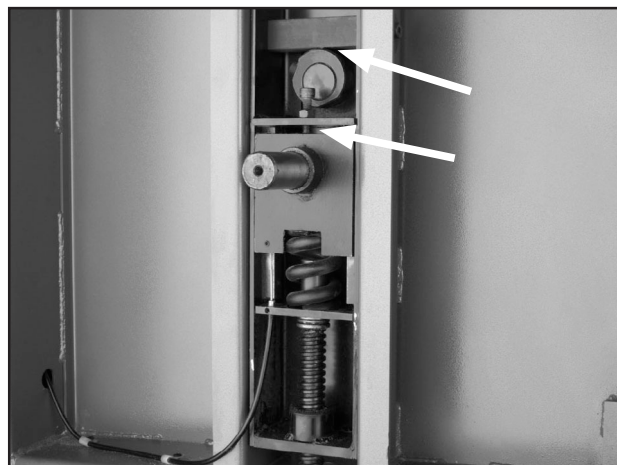

Figure 72. Tension adjustment assembly locations (top wheel removed for clarity).
4. Apply a thin coat of grease to the tension adjustment assembly and tension lever cam (**Figure 72**).